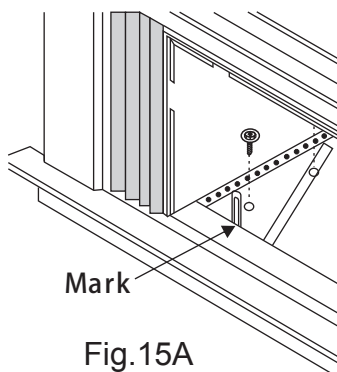

Fig.15A
1. Hold each support bracket flush against outside of sill, and tight to bottom of cabinet as shown in Fig.15A. Mark brackets at top level of sill and remove.